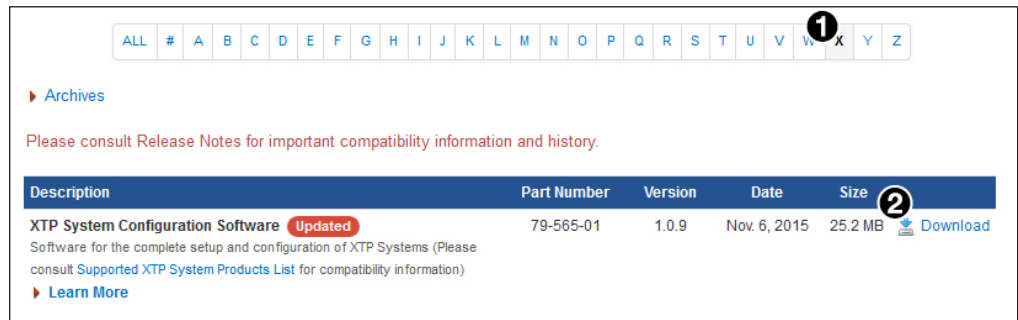

Figure 23. XTP System Configuration Software Download Link
3. Click the **X** link (see figure 23, ①).
4. Locate the XTP System Configuration Software and click the **Download** link (see figure 23, ②) to the right of the product name.